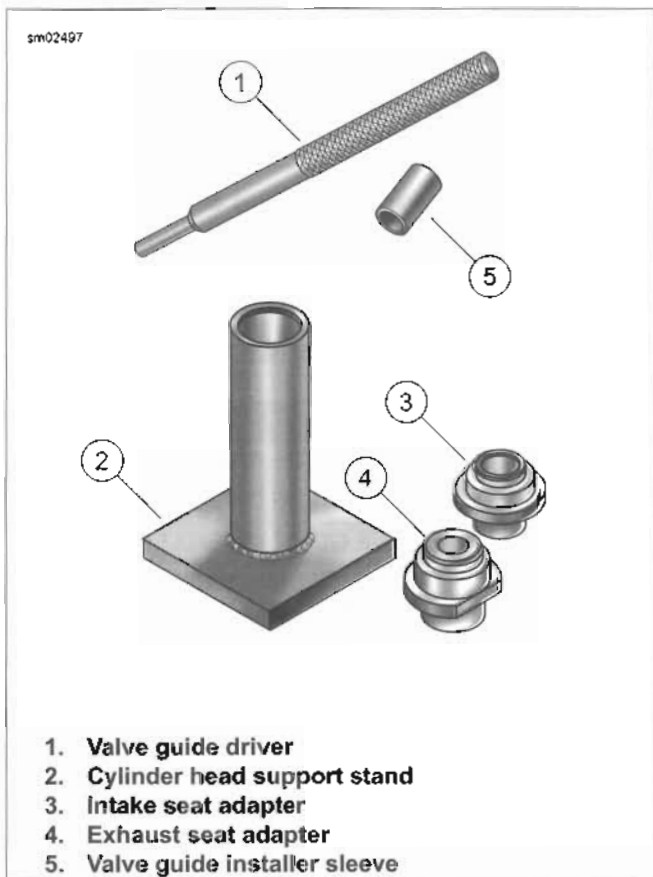

Figure 3-44. Valve Guide Replacement Tools
1. See Figure 3-44. Prepare cylinder head for valve guide replacement.
- b. Insert sleeve of appropriate seat adapter (3 or 4) into tube at top of support stand (2).
- a. See Figure 3-44. Insert sleeve of the appropriate seat adapter (3 or 4) into tube at top of support stand (2). Position cylinder head so that valve seat is centered on seat adapter.